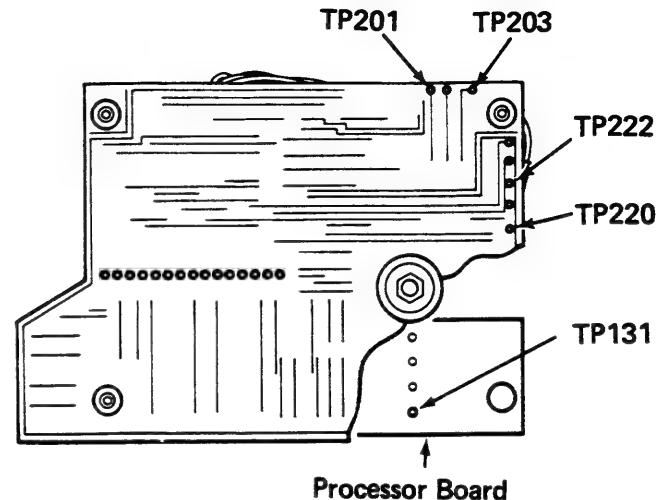

Figure 3-4D
8. Connect the Channel 1 Scope Probe to TP201 on the Peripheral PWB and the Channel 1 Ground to TP131 on the Processor PWA (Figure 3-4D).
9. Connect the Channel 2 Scope Probe to TP220 on the Peripheral PWB (Figure 3-4D). Do not connect the Channel 2 Ground.
18. Connect the Channel 1 Scope Probe to TP203 on the Peripheral PWB and Ground to TP131 on the Processor PWB (Figure 3-4D).
19. Connect the Channel 2 Scope Probe to TP222 on the Peripheral PWB (Figure 3-4D).